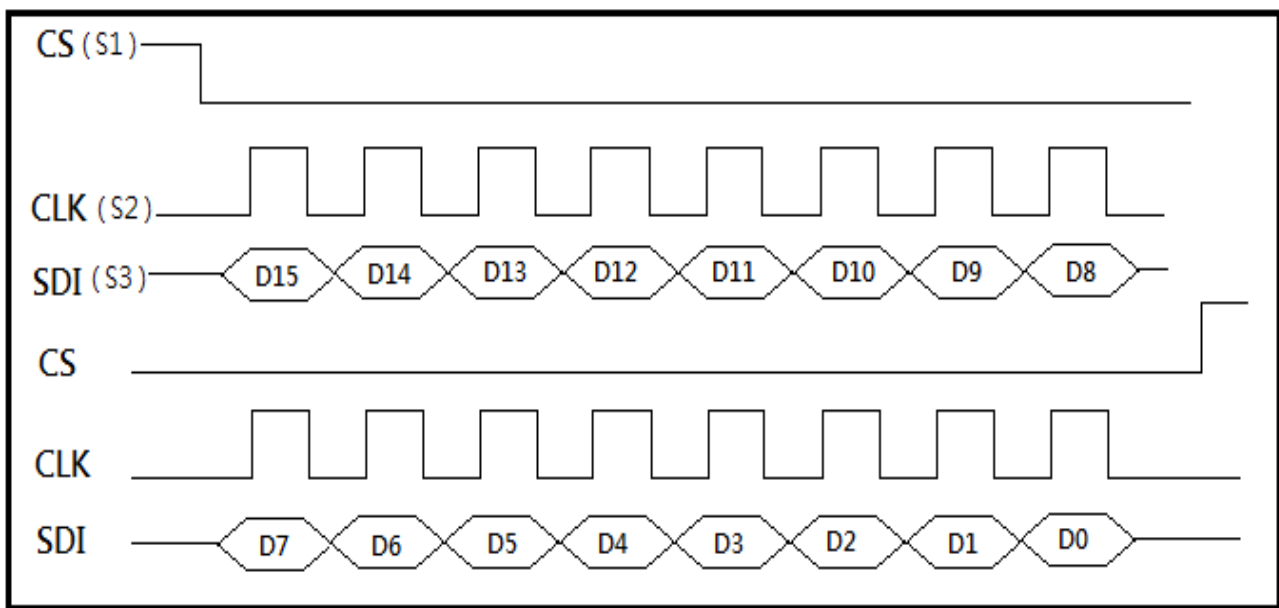

Fig. 8 SPI command timing
Command timing reference Fig. 8 SPI command timing.
a. Command timing reference Fig. 8 SPI command timing.
- a. Command timing reference Fig. 8 SPI command timing.
- a. command timing reference Fig. 8 SPI command timing.